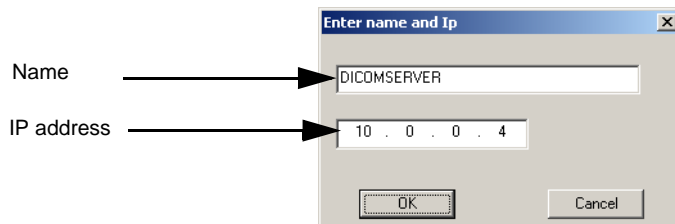

Figure 3-101 Edit Name and/or IP address
- c.) Edit the name and/or the IP address of the server, see Figure 3-101.